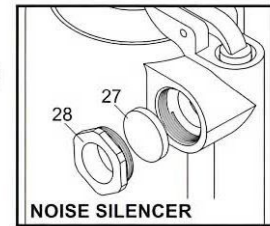

Fig.4
- Unscrew the Noise Silencer Lock Nut (28), take out the Noise Silencer (27) and clean it. If the Noise Silencer (27) is blocked or covered badly, replace it. (Fig.4)
- Reverse the above step to reassemble these two parts. Ensure that the Noise Silencer Lock Nut (28) is fastened firmly.